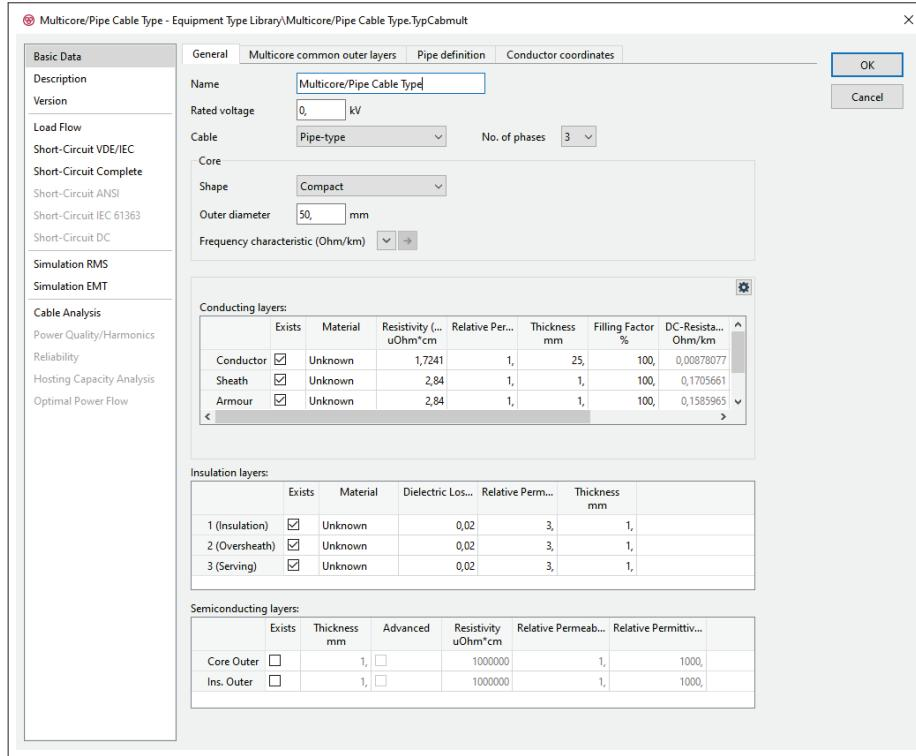

Figure 11.3.10: Multicore/Pipe Cable Type (*TypCabmult*)
6. On the Basic Data page of the dialog of the Multicore/Pipe Cable Type, shown in figure 11.3.10, just as for the Single Core Cable type the rated voltage, and details of the core construction should be defined along with the characteristics of the various conducting, insulating and semi-conducting layers from which the cable is constructed. Again, if a sheath or armour is to be considered then the relevant checkbox should be selected to confirm that it exists. Note that additionally here it is possible to select whether the Pipe Type model or the Multicore model is to be used. Note also that depending on which model is selected, different data may be entered in the additional tabs defining either the multicore common outer layers or the pipe. Finally the geometry of the conductors within the arrangement should be defined using the Conductor coordinates tab.